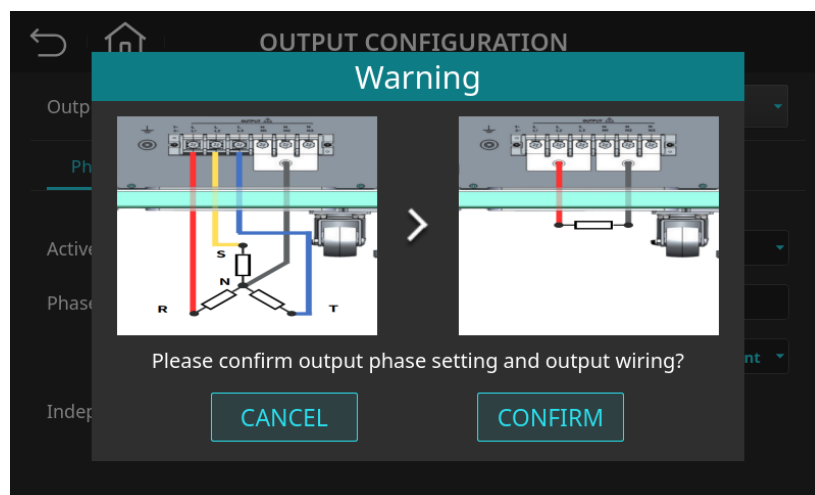

Figure 4-23: Phase Mode Switching Warning Page (Switching from Three Phase to Single Phase)
3. After confirming the output wiring is in single-phase mode, press the "CONFIRM" button, as shown in Figure 4-23.